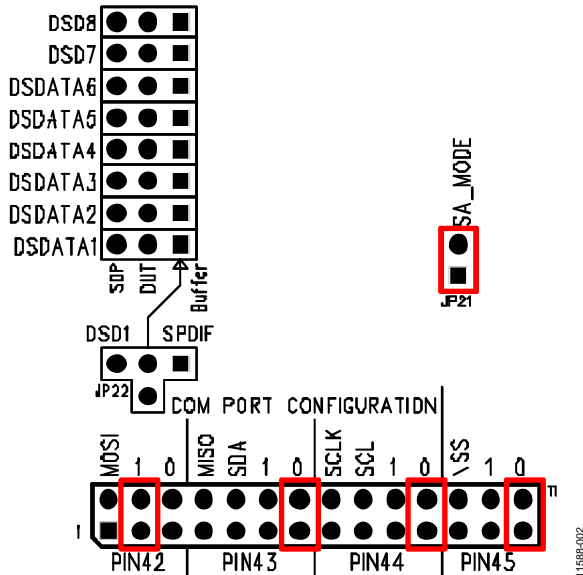

Figure 2. SA_MODE—Slave, $256 \times f_s$, I²S
The ADAU196xA has a standalone mode, which allows the user to choose between a limited number of operation modes without the need for a control interface. Applying a jumper across JP21, as shown in Figure 2, pulls SA_MODE (Pin 46) high enabling standalone mode in the ADAU196xA. The SA_MODE selections are listed in Table 1.
The EVAL-ADAU196xAZ arrives configured for S/PDIF input. The S/PDIF receiver operates as a clock master, putting out an I²S stream at $256 \times f_s$. For quick startup, the ADAU196xA is in standalone mode with the settings shown in Figure 2.
Pin 42 is pulled high (1) and Pin 43 to Pin 45 are pulled low (0). According to Table 1, this puts the ADAU196xA in slave mode, running at $256 \times f_s$, and the audio serial port in I²S mode. Looking at Figure 2, notice that the jumper for Pin 42 is beneath the label for 1 and the other pins are assigned to 0.